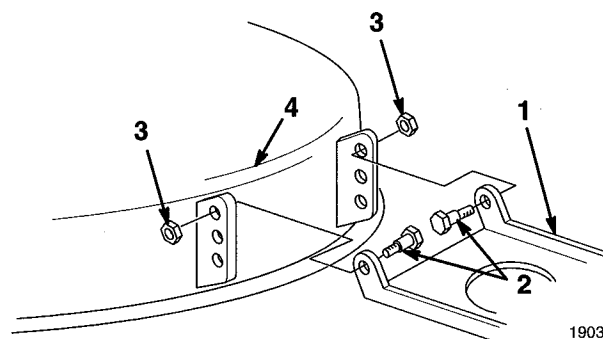

Figure 49
11. If the 0" to 1/4" (0 mm to 6.5 mm) front slope cannot be achieved by rotating the slope adjusting nut, move the mower pivot mount at the mower (Fig. 49).
12. Remove the shoulder bolts and lock nuts from the mower (Fig. 49).
13. Lower the mower pivot one hole and install the shoulder bolts and lock nuts (Fig. 49).